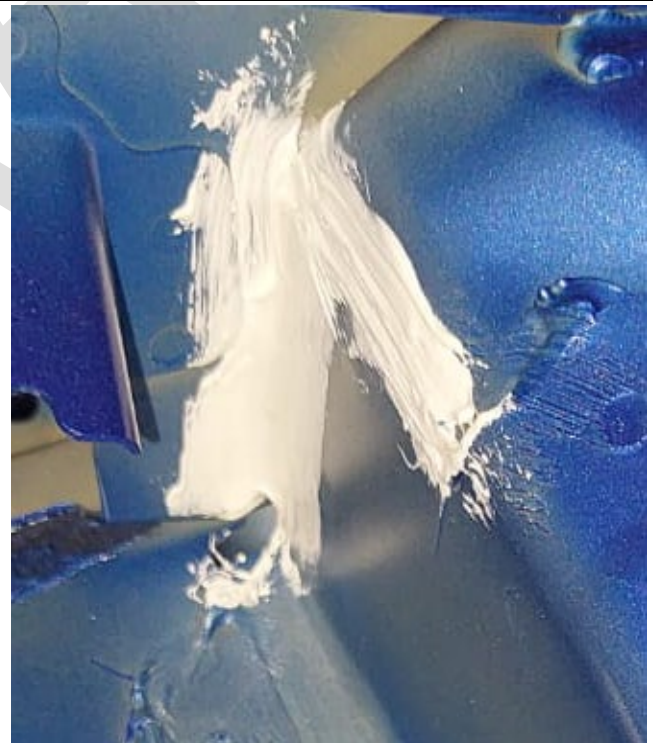

Figure 20
14. Figure 20 shows the cowl area after joint seams have been resealed with the brushed on seam sealer.